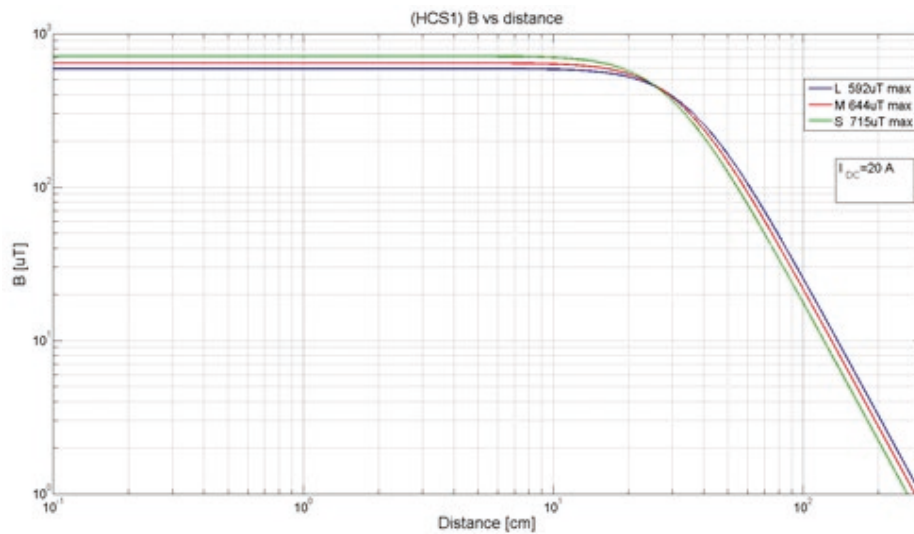

Figure 2. B versus Distance from the centre for DC current
The curve of magnetic field (DC) along each axis versus distance from centre of the coils is shown in “Figure 2. B versus Distance from the centre for DC current”.